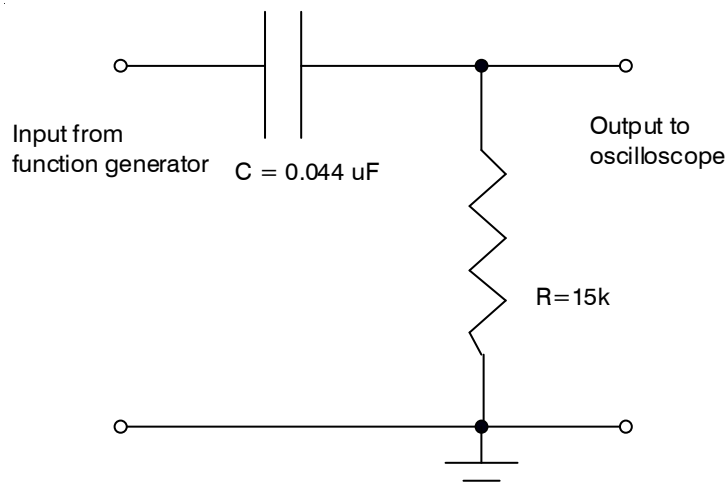

FIG. 1 RC High Pass Filter Circuit
Introduction: The aim of this experiment is to test the reliability of the theoretical predictions for a RC high pass filter circuit like the one shown in Fig. 1. The prediction for the ratio of the amplitudes of the output voltage to the input voltage is
1. Begin by constructing the high pass filter circuit shown in Fig. 1 into the circuit chassis. Have your instructor check your solder technique and your circuit layout.